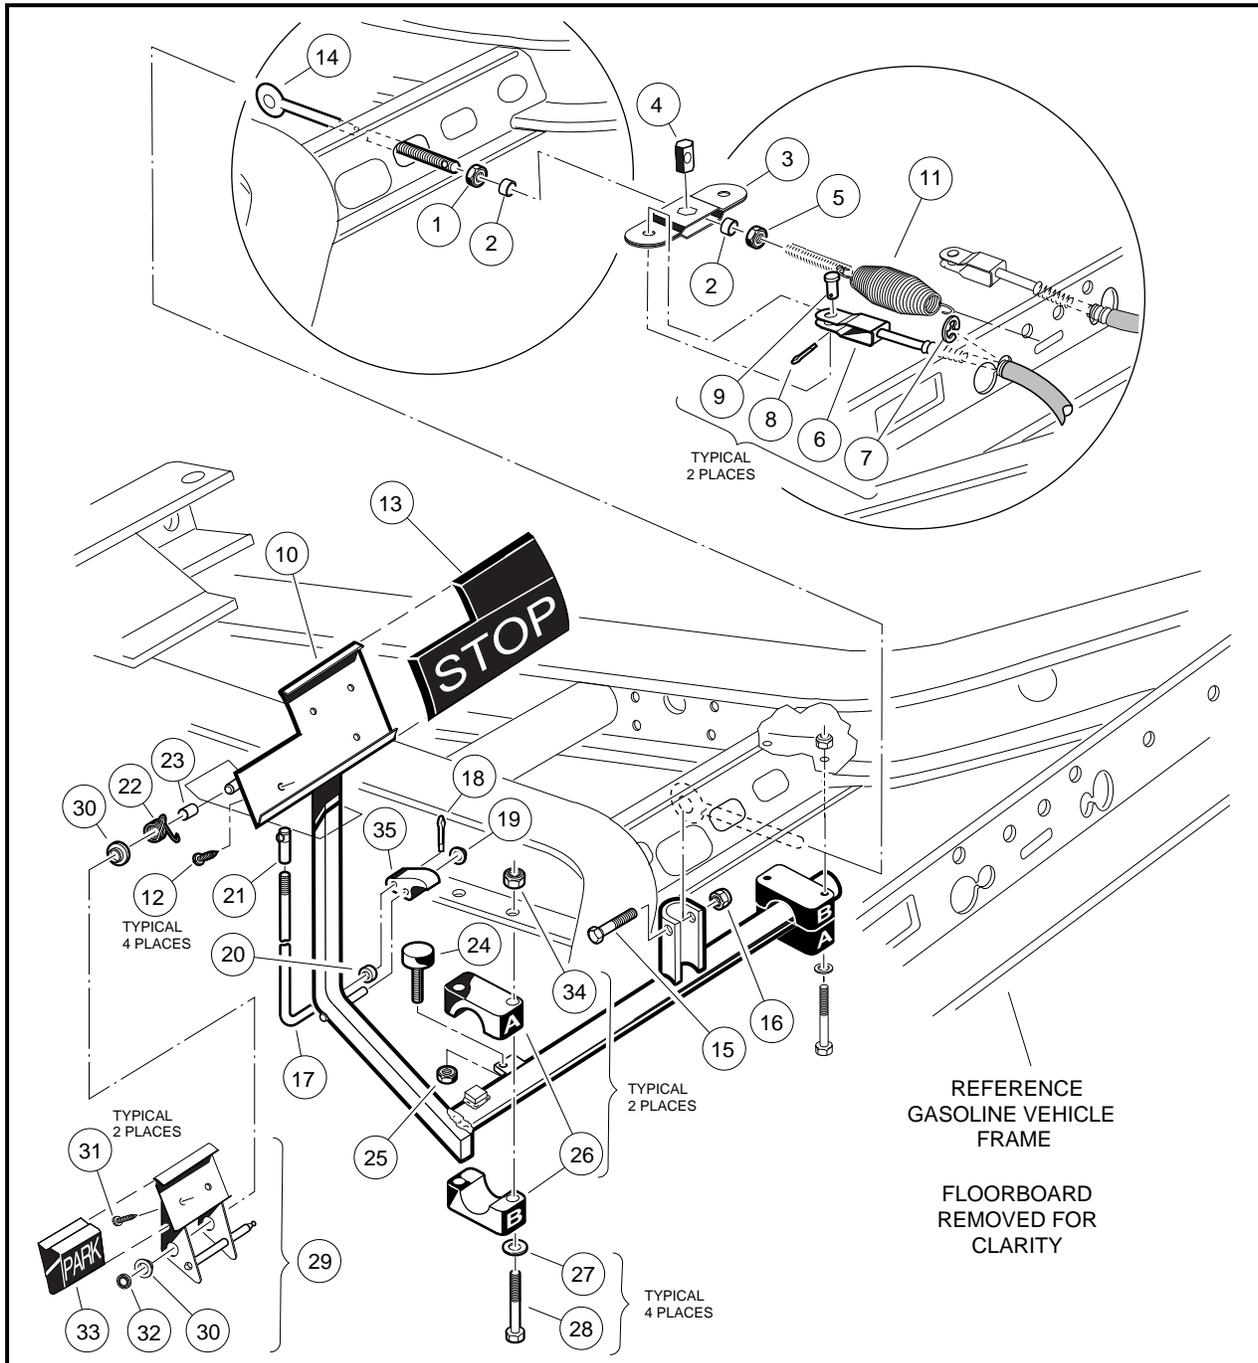
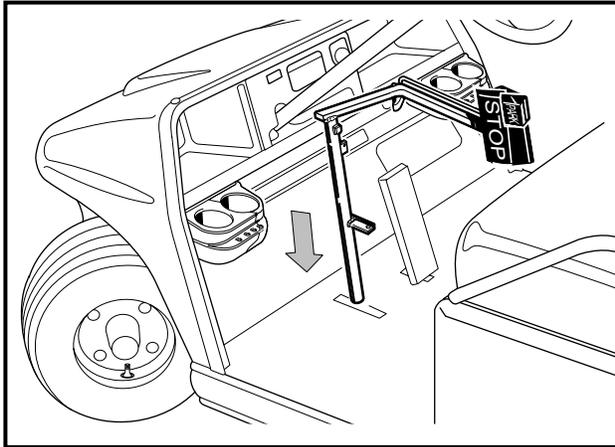
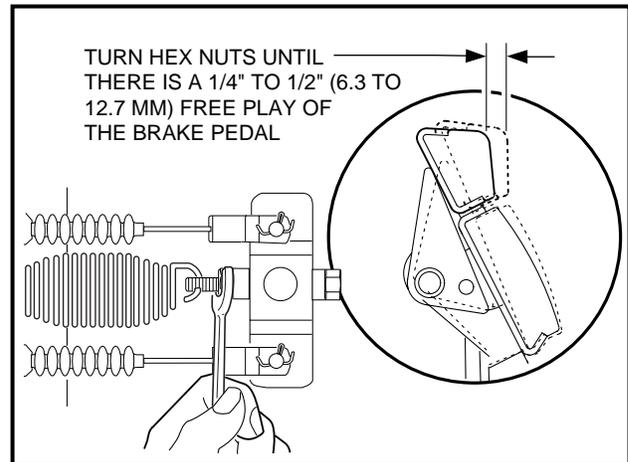

Figure 5-12 Brake and Park Brake Pedal Assembly and Mounting
Figure 5-13 Brake Pedal Weldment Through Floor
Figure 5-16 Adjust Brake Pedal Free-Play
- 3.1. Disconnect the brake cables from the equalizer rod (14) (**Figure 5-12, Page 5-9**).
- 3.2. Remove the pedal return spring (11) from the equalizer rod (14) (**Figure 5-12, Page 5-9**).
- 3.3. Remove nuts (34), flat washers (27), bolts (28), and bearing blocks (26) (**Figure 5-12, Page 5-9**).
- 3.4. Loosen the brake equalizer rod hex nut (5) five turns, then disconnect the rod (14) from the pedal shaft by removing the bolt (15) and nut (16) (**Figure 5-12, Page 5-9**).
- 3.5. Remove the nut (25) and brake stop (24) (**Figure 5-12, Page 5-9**).
- 3.6. Lift the pedal assembly (10) up through the floorboard (**Figure 5-12, Page 5-9**).
- 1.1. From the top side of the floorboard, insert the brake pedal weldment assembly (10) (**Figure 5-12, Page 5-9**) through the opening in the floor as shown (**Figure 5-13, Page 5-11**), and install the pedal stop (24) (**Figure 5-12, Page 5-9**) on the weldment.
- 1.2. Attach the equalizer rod (14) to the brake pedal weldment assembly (10) as shown (**Figure 5-12, Page 5-9**). Tighten the bolt (15) and nut (16) to 17 ft.lb (23.1 N-m).
- 1.3. Position and attach brake pedal assembly and mounting blocks (26) to vehicle frame as shown. Tighten the bolts and nuts to 50 in.lb (6.5 N-m) (**Figure 5-12, Page 5-9**). **See following NOTE.**
- EACH HALF OF EACH MOUNTING BLOCK ASSEMBLY IS MARKED WITH AN **A** OR **B**. THE HALVES MARKED **A** SHOULD BE ORIENTED TO THE TOP LEFT HAND AND BOTTOM RIGHT HAND SIDES OF THE BRAKE PEDAL ASSEMBLY, AND THE HALVES MARKED **B** SHOULD BE ORIENTED TO THE TOP RIGHT HAND SIDE AND BOTTOM LEFT HAND SIDE OF THE BRAKE PEDAL ASSEMBLY (**FIGURE 5-12, PAGE 5-9**).
- 1.4. Install the brake cables (6) on the equalizer rod using **new** cotter pins (8) and the clevis pins (9) that were removed when the brake pedal assembly was disassembled (**Figure 5-12, Page 5-9**). Tighten the nut (5) on the equalizer rod so that brake pedal free-play is 1/4 in. to 1/2 in. (6.35 mm to 12.7 mm) (**Figure 5-16, Page 5-11**). See following **NOTE**.
- 3.1. To remove the park brake rod and pawl assembly (17 through 20 and 35), remove the push-on nut (19) and disconnect the ball joint sleeve (21) from the park brake pedal (29). Remove the ball joint sleeve (20) from the rod and pawl assembly (**Figure 5-12, Page 5-9**). **See following NOTE.**